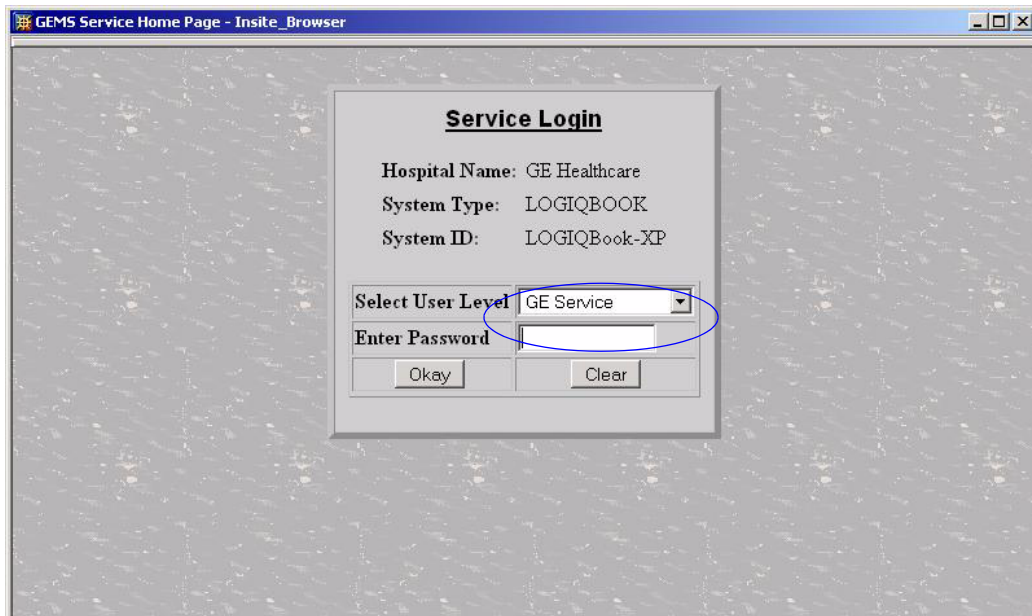

Figure 7-104 Service Login Page
- 3.) Select GE Service in option of User Level of GEMS Service Home page and input correct password, press OK button. See Figure 7-104 on page 7-9